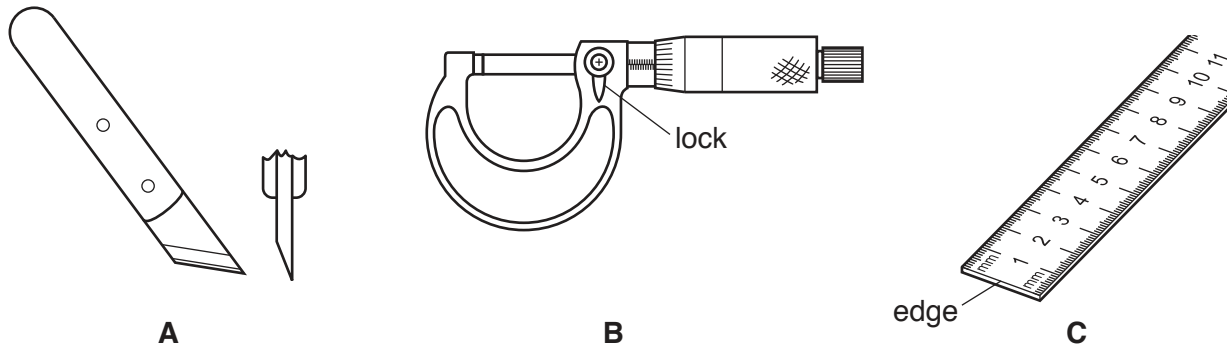

Fig. 4
- 11 Three different marking out or measuring tools are shown in Fig. 4.
- (a) Name the marking out or measuring tools shown in Fig. 4 and state a specific use for each. [6]